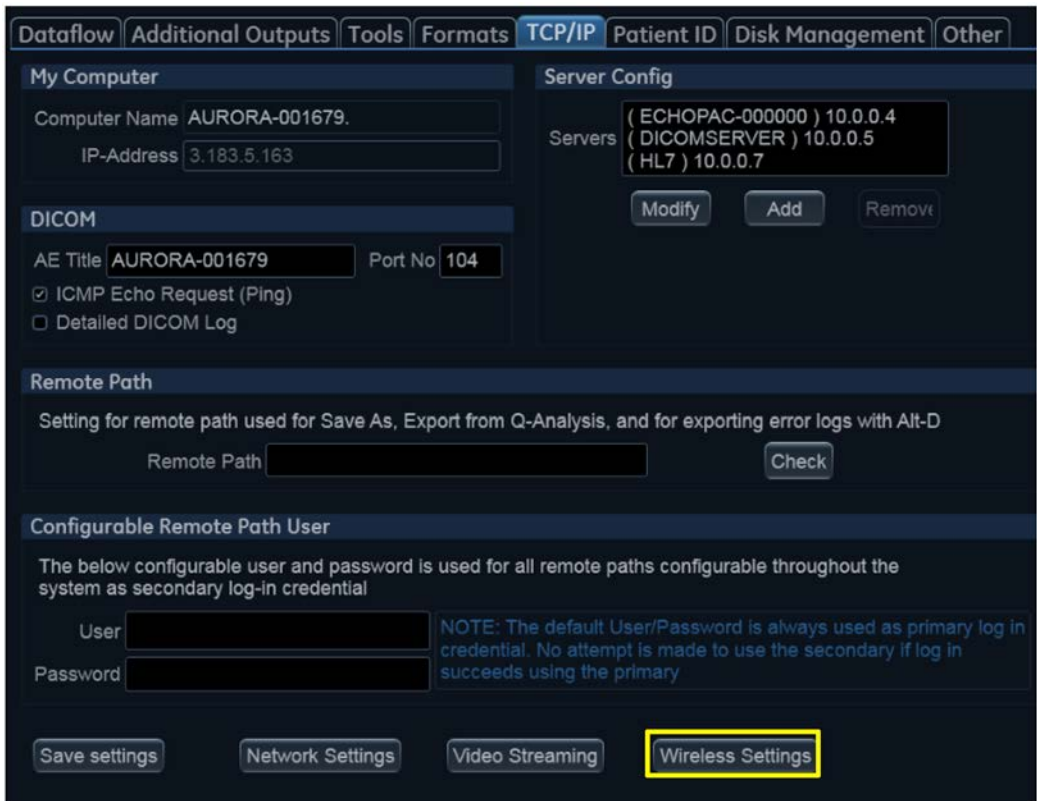

Figure 12-37. Connectivity - TCP/IP Tab
4. Click the **Wireless Settings** button - see Figure 12-37.